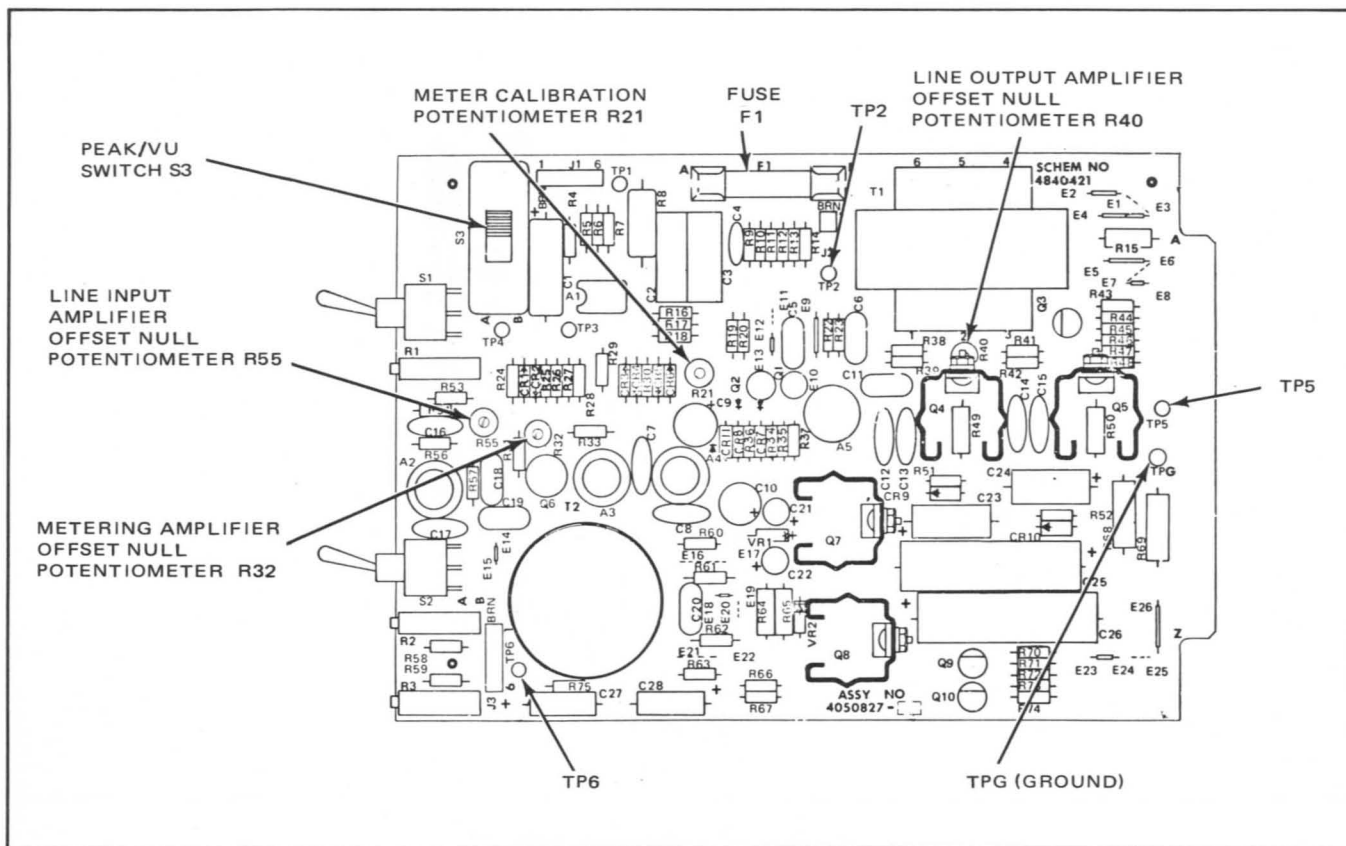

Figure 5-17. Input/Output Module Assembly
3. Remove fuse F1 (Figure 5-17).
6. Apply power and adjust metering amplifier offset null potentiometer R32 (Figure 5-17) for zero indication (same as step 1) on the level meter.
7. Connect a dc voltmeter to TP6 and ground (Figure 5-17).
10. Connect dc voltmeter to TP2 and ground (Figure 5-17).
11. Adjust line output amplifier offset null potentiometer R40 (Figure 5-17) for 0 ± 30 mV at TP2. Remove dc voltmeter.
2. Connect ac voltmeter to TP6 and ground (Figure 5-17).
8. Remove power and set peak/vu meter switch S3 (Figure 5-17) to desired operating position, peak or vu. Reapply power.
10. Adjust meter calibration potentiometer R21 (Figure 5-17) for indication of -6 dB (meter switch S3 in peak position) or 0 vu (meter switch S3 in vu position).
2. Connect a jumper from TP5 to TP6 (Figure 5-17).
14. Remove power and set peak/vu meter switch S3 (Figure 5-17) to desired operation position, peak or vu. Reapply power.
15. Adjust meter calibration potentiometer R21 (Figure 5-17) for indication of -6 dB (meter switch S3 in peak position) or 0 vu (meter switch S3 in vu position).